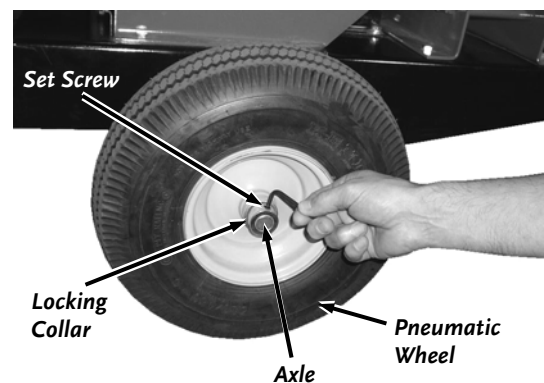

Figure 45
2. Loosen the Set Screw with a 5/32" allen wrench and remove the Locking Collar (**Figure 45**).